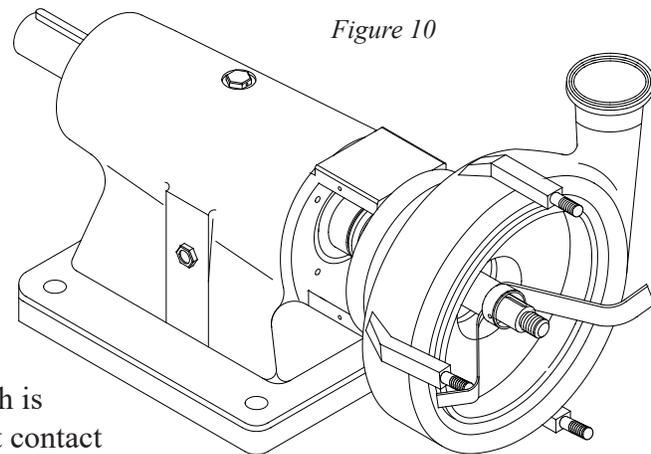

Figure 10
h) Next remove the front seal driver (40) and seal spring (38) by pulling them off the pump shaft (17) and discard them.
i) Now remove the rotating seal (37), seal washer (28) and o-ring (29) by gently placing the flat ends of two impeller pullers on either side of the rotating seal and carefully pulling (wiggling the seal ring side-to-side should aid removal) until the rotating seal face comes off the shaft (**Figure 10**). Discard the seal components after you remove them.